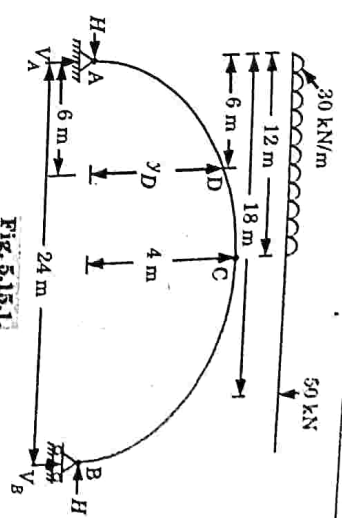

Fig. 5.15.1.
1. The arch is shown in Fig. 5.15.1. Taking moment about support B, we get